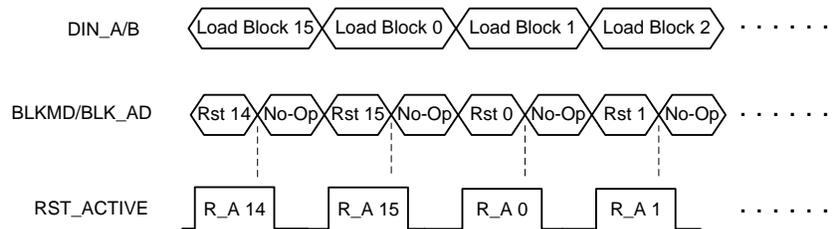

图 15. Single Block Phased Mode with Longer Block Load Times
Single Block Phased Mode is best described as "phasing" the data load operation with the Block Reset operation. The major advantages of Phased Modes (Single, Dual, and Quad) in general are the idea of not having to wait for the micromirror settling time duration to complete prior to the next block reset, and for not having to wait for the Reset Request to complete prior to loading more data. In the example of 图 15, Block 15 is loaded with data while the Reset operation is taking place for Block 14 (Rst 14). The Reset Request (BLKMD and BLK_AD) for Block 14 needs to be one row cycle in duration minimum but can be extended to additional row cycles. Subsequent row cycles containing a valid Reset Request will be ignored until RST_ACTIVE goes low. Therefore, BLKMD and BLK_AD should transition from a Reset Request to a Block No-Op while RST_ACTIVE is still asserted as once RST_ACTIVE de-asserts there is the likelihood of an undesired Reset Request to be generated on the same block.
In 图 15, Block 0 is issued a Block Reset concurrently with data being loaded into the next block (1). The Row Cycles of the Block 1 data loading capture the Reset Request for Block 0, and provide continued Row Cycles for the duration of both the Block Load and the Block Reset. Note that the loading of block 1 does not need to wait for the mirror settling time of Block 0. This is repeated until the last block is Reset (which might also contain loading the next Block 0 data). Since the DLP650LNIR block load time is already longer than the RST_ACTIVE time, full utilization of its bandwidth is readily achieved in a single block phased mode.